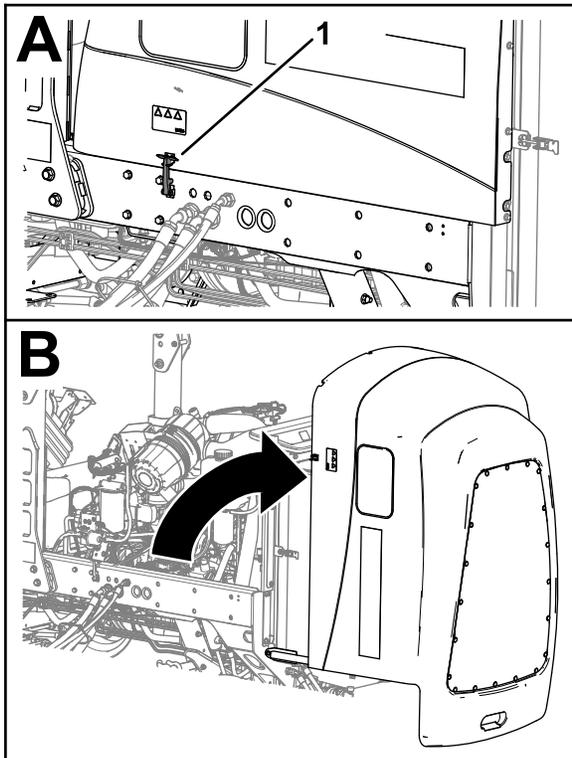

Figure 58
1. Release the 2 hood latches (Figure 58).